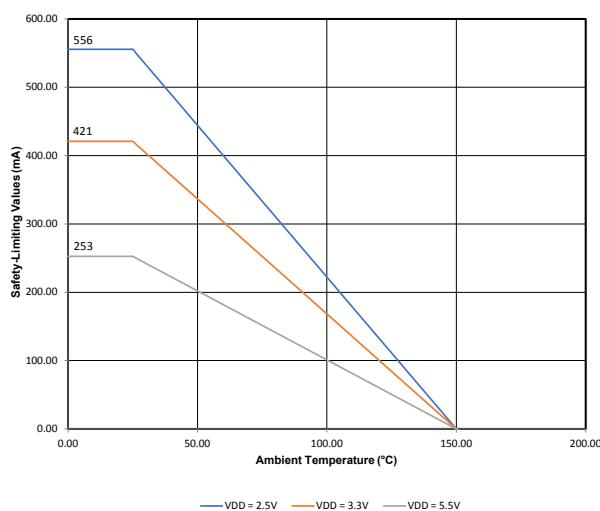

Figure 4.7. (SSO-8) Thermal Derating Curve, Dependence of Safety Limiting Current
1. Maximum value allowed in the event of a failure; also see the thermal derating curve in Figure 4.7 \(SSO-8\) Thermal Derating Curve, Dependence of Safety Limiting Current on page 25.